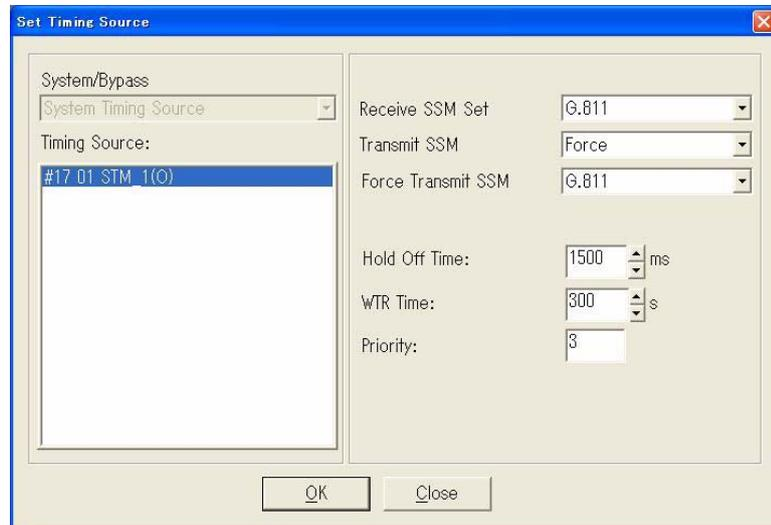

Fig. 4-4-7 Set Timing Source Dialog Box (for modification)
- 4 Click the **Modify** button on the upper left of the **Setup-Timing Source Configuration** dialog box. The **Set Timing Source** dialog box shown in **Fig. 4-4-7** appears: